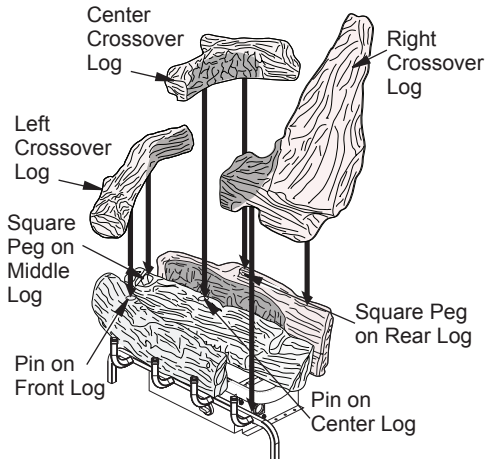

Figure 19 - Installing Left, Center and Right Crossover Logs
4. Place left crossover log as shown in Figure 19. Match square peg on top of center log with square hole on bottom of left crossover log. Match pin on top of front log with round hole on bottom of left crossover log.
5. Place center crossover log as shown in Figure 19. Match square peg on top of rear log with square hole on bottom of center crossover log. Match pin on top of center log with round hole on bottom of center crossover log.
6. Place left front crossover log as shown in Figure 19. Log should rest on the grate and fit into recess area on the center log.